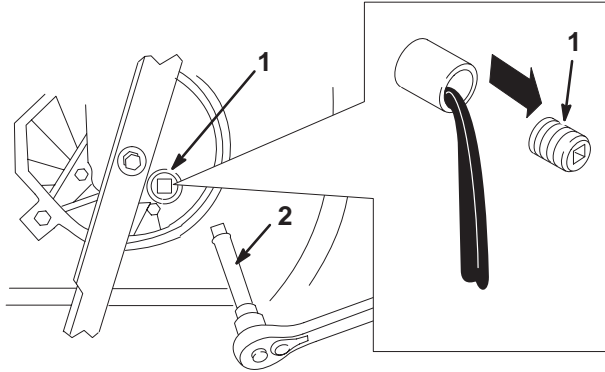

Figure 12
5. Remove the oil drain plug, return the lawn mower to its operating position, and allow the oil to drain into the drain pan (Fig. 12).